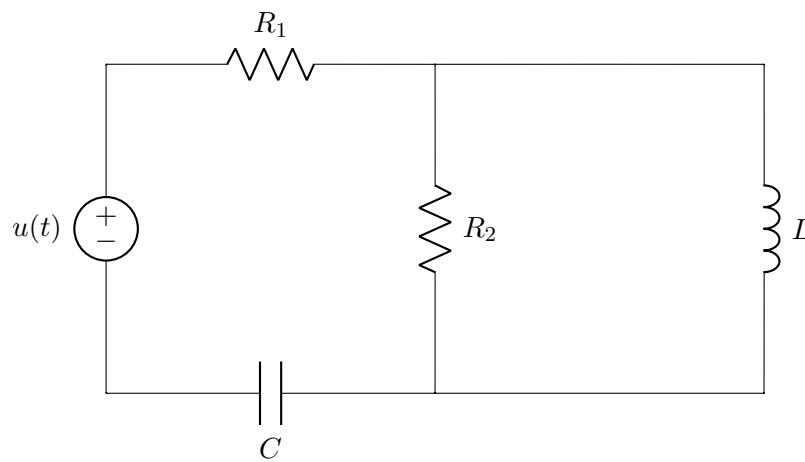

Figure 5: Electrical Circuit
**Problem 6** For the electrical system in Figure 5: